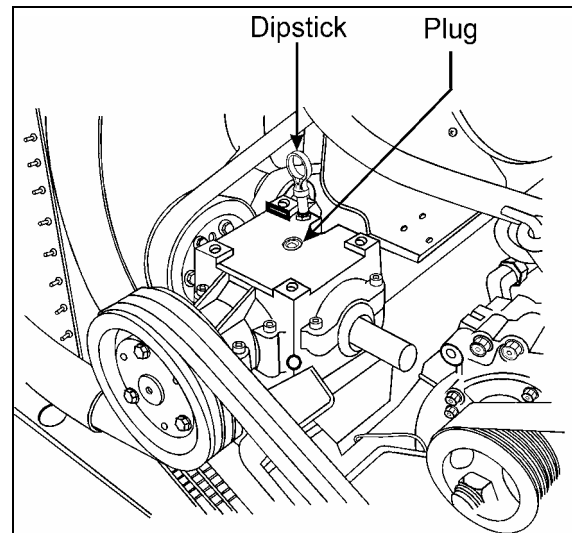

FIGURE 13: FAN GEARBOX 05062
5. Remove the dipstick located on top of gearbox and wipe with a clean rag (Fig. 13).